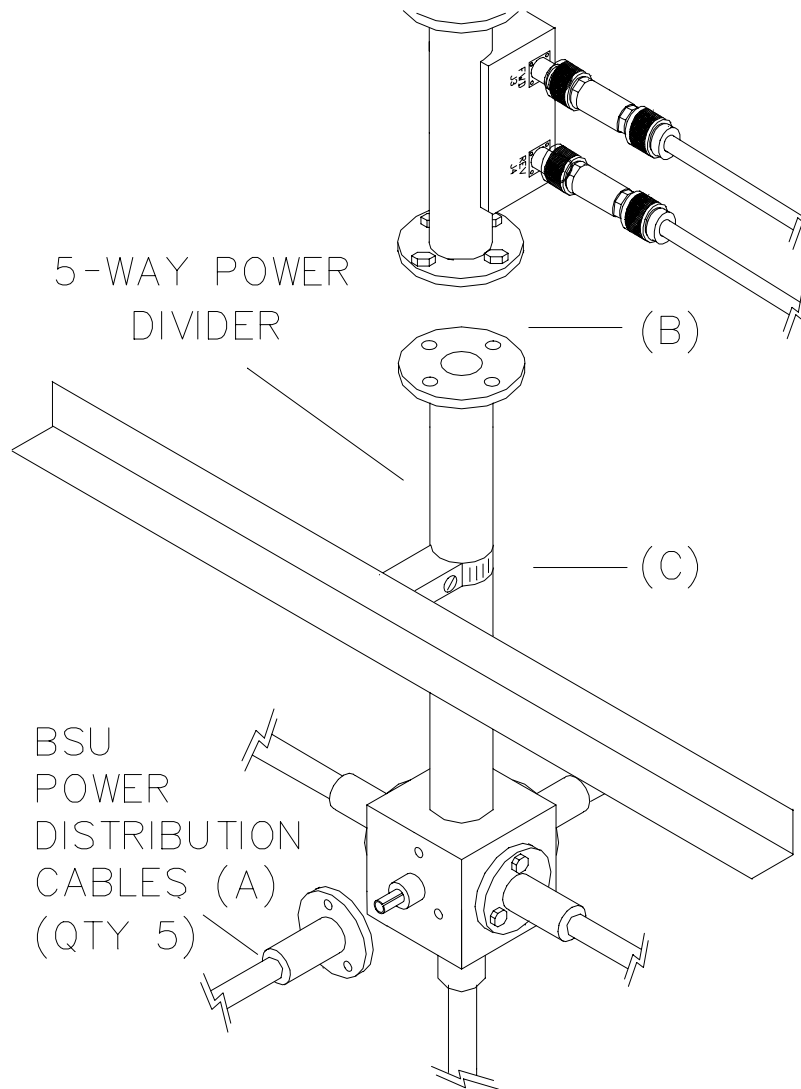

Figure 5-14 5-Way Power Divider Replacement
4. Disconnect the Limiter and T/R switch from port 3 of the Circulator point (A) in [Figure 5-14] by unscrewing the type "N" connector. Place the Limiter and T/R Switch on top of the Receiver.
Unscrew the three bolts holding each Phase Delay Cable to the 5-Way Power Divider point (A) in [Figure 5-14] and remove that end of the cable. Ensure that the center conductor of each connector is removed with the Phase Delay Cable. If a center conductor remains attached to the 5-Way Power Divider, remove the conductor and insert it into the Phase Delay Cable connector.
7. Loosen and remove the clamp that fastens the shaft of the 5-Way Power Divider to the BSU Cabinet cross brace point (C) in [Figure 5-14].
8. Loosen the four bolts that fasten the 5-Way Power Divider to the Directional Coupler point (B) in [Figure 5-14], and remove all but one bolt.